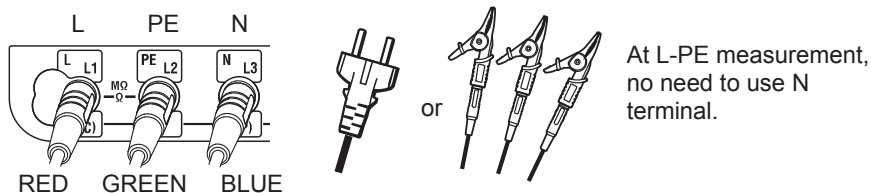
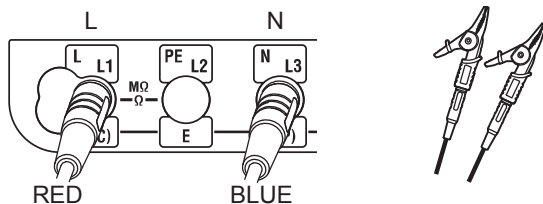

Fig. 10-7 For L-PE and L-N test
Fig. 10-8 For L-N and L-L test
- (1) Select LOOP HIGH function with the rotary switch.
- (2) Connect the test lead into the instrument. (Fig. 10-7 or Fig. 10-8)